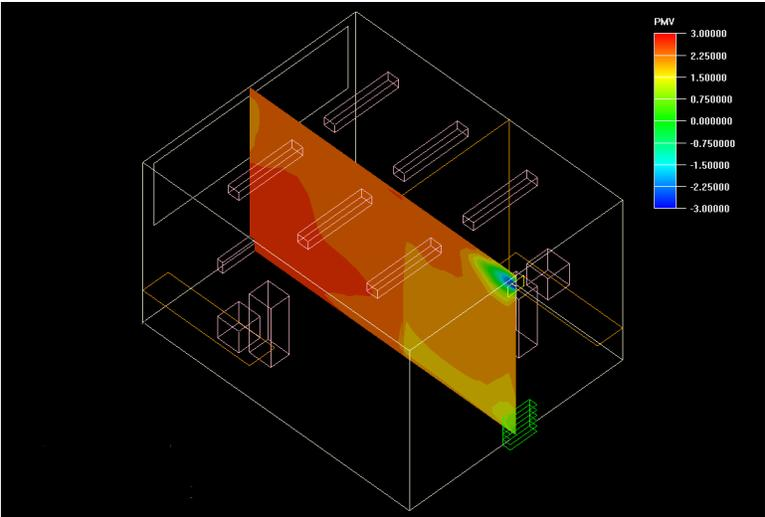

Figure 1.17: Predicted Mean Vote (PMV) Contours
- (k) Click **Done** in the **Plane cut contours** panel to display contours of PMV, as shown in Figure 1.17.